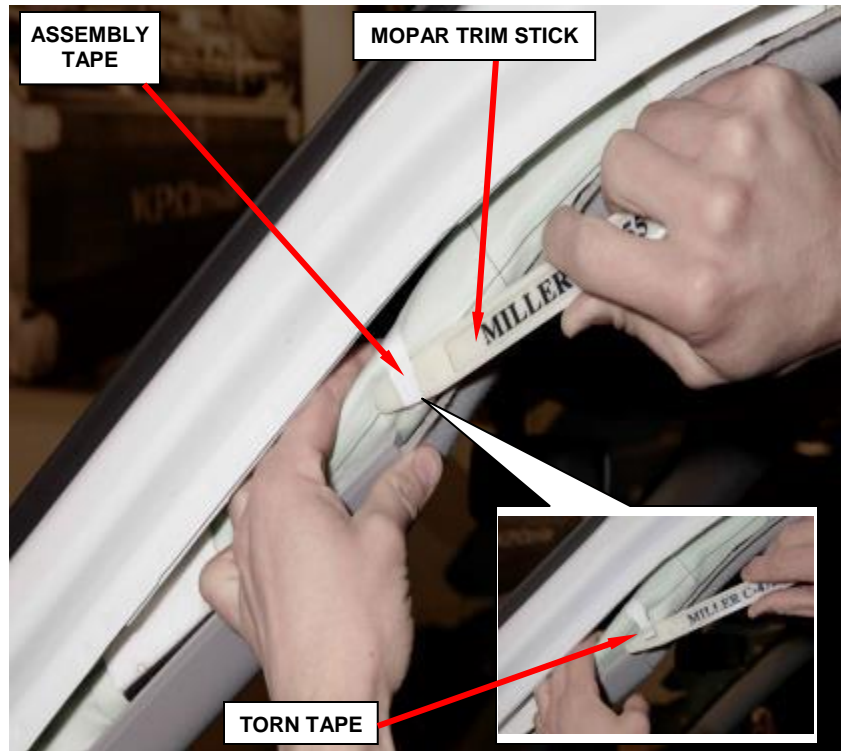

Figure 3 – Trim Stick
5. Access the assembly tape wrapped around the SABIC and position a Mopar trim stick C-4755A under the assembly tape (Figure 3).
6. Tear the assembly tape pulling outward from the SABIC and remove the tape completely from the SABIC (Figure 3).